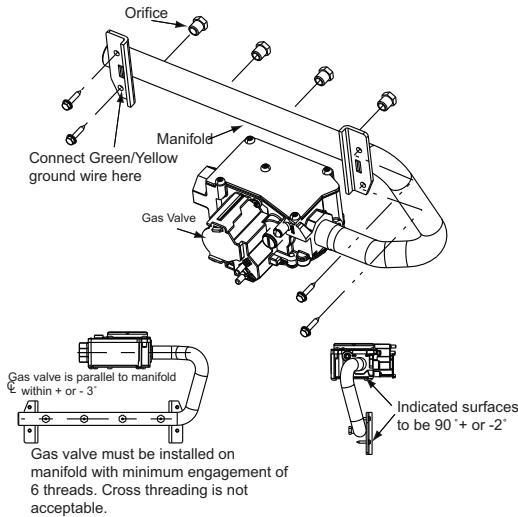

Fig. 2 – Manifold Assembly
3. Support the manifold and remove the four (4) screws that secure the manifold assembly to the burner box and set aside.
4. Note the location of the green/yellow wire ground wire for re-assembly later (see Fig. 2)